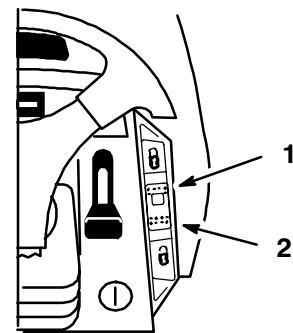

Figure 15
The cruise control is optional on some models. A 3 position: Set-Lock (spring loaded), On and Off-Unlock dash switch (Fig. 15) controls the engagement. Cruise control maintains the traction control position without foot pressure. Cruise control is intended for operation in the forward direction only. Do not use cruise control in reverse.
1. While holding your foot steady on the traction control, push the cruise control switch (Fig. 15) to the "SET"- "LOCK" position.
1. While holding your foot steady on the traction control, move the cruise control switch (Fig. 15) to the "UNLOCK"- "OFF" position.